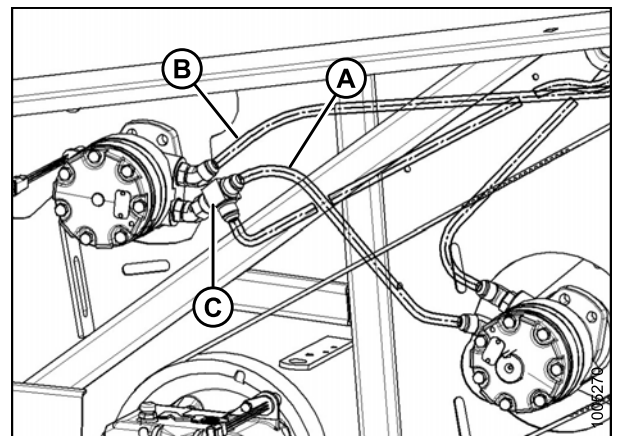

Figure 4.55: Early-Build 2015, 2014 and earlier Factory Configuration (M150, M155, and M200)
1. Press screwdriver against latch in opening (A) and lift to open header left-hand driveshield. Shield will latch at (B) to stay open.
2. Check hose routing at the reel motor. The header is factory-configured for M150, M155, and M200 Windrowers as shown in Figure 4.55: *Early-Build 2015, 2014 and earlier Factory Configuration (M150, M155, and M200)*, page 123.